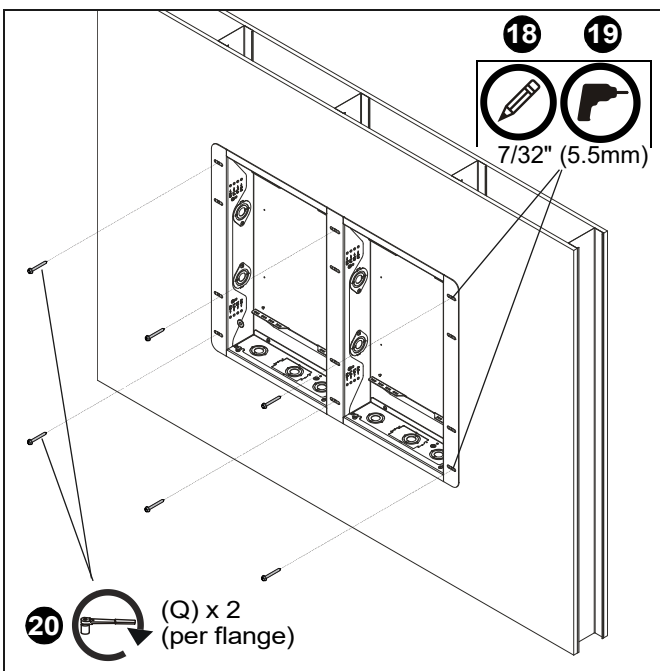

Figure 17
20. Use two 5/16 x 2-3/4" lag bolts (Q) to secure each flange to studs. (See Figure 17)